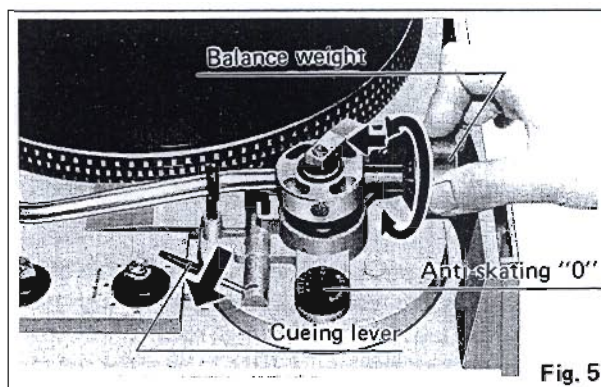

Fig. 5
- 1) Make sure that the cueing lever is in the lowered position as shown in Fig. 5.
- 3) Make sure that the anti-skating control knob is a "0" position. (See Fig. 5).